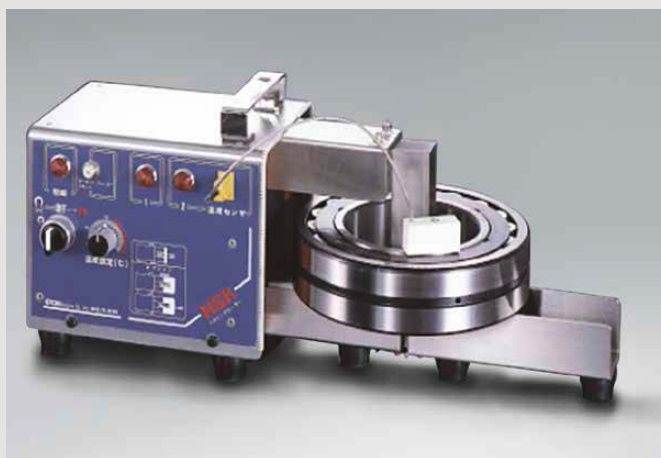

Fig. 6.6 NSK Bearing Heater
b) Bearing heater method (Fig. 6.6)